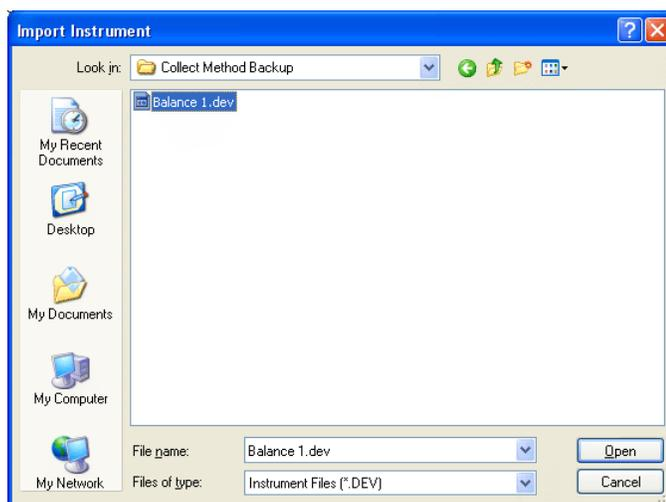

Figure 3.21: Locate the instrument to be imported
2. The cursor will be flashing in the File Name text box. Type in the imported instrument file or browse the directory; (See Figure 3.21) click on the instrument file.